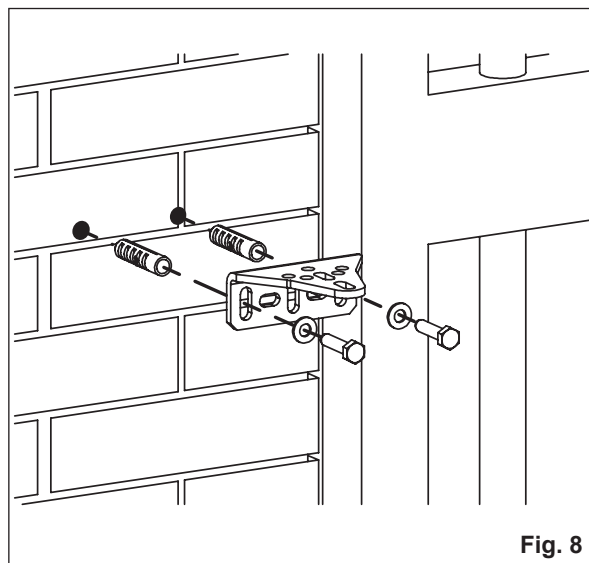

Fig. 8
1. Secure the fixed part of the rear bracket in the position determined previously, using suitable assembly systems. In the case of iron pillars, the bracket may be welded directly to the pilaster, see Figures 8 and 9.